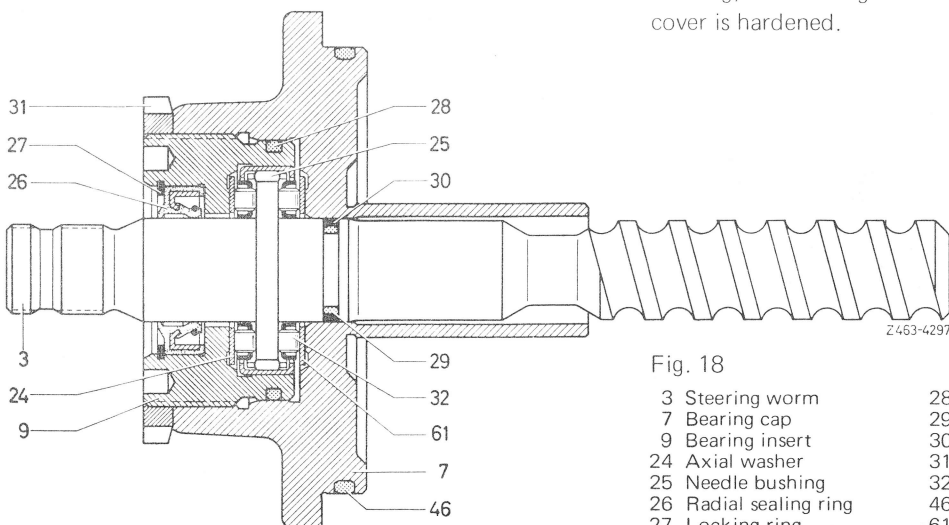

Fig. 18
18 Remove sealing ring (30) and O-ring (29) from steering worm (3) (Fig. 18).
19 Remove axial cyl. roller cage (32) and axial disc (61) from bearing cap (7) (Fig. 18).